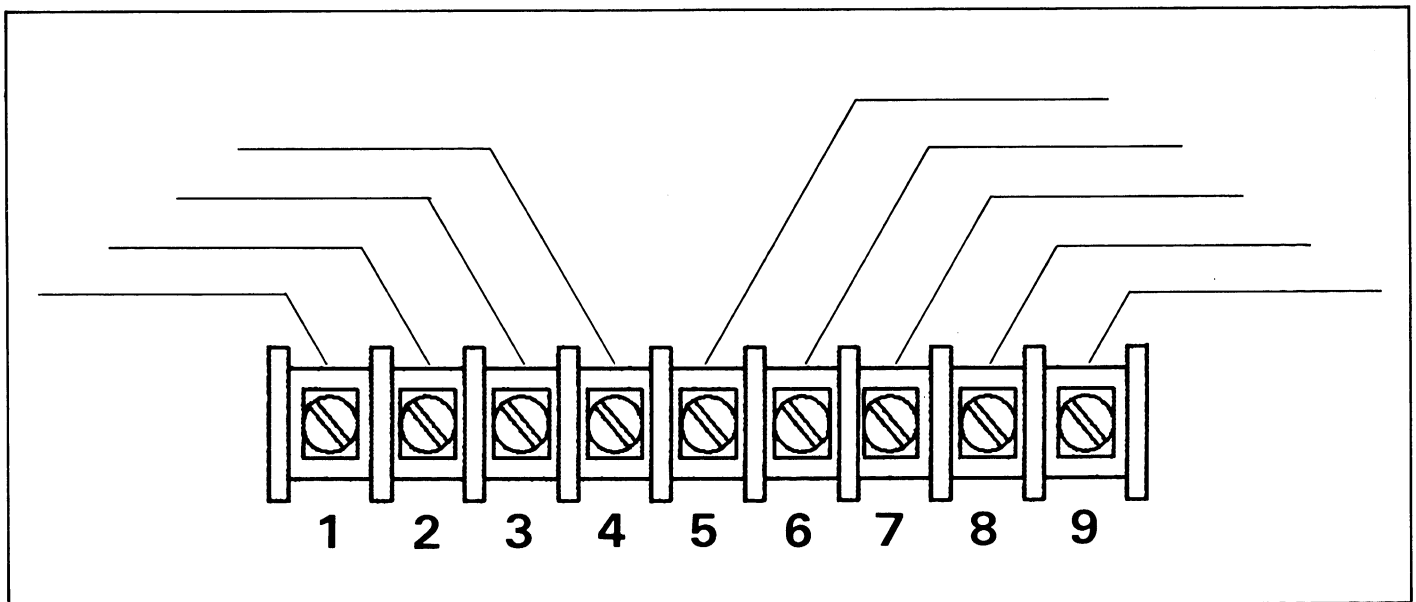

Figure 1 — PC Board Terminal Block Lead Identification
2. As leads are removed from PC board terminal block, tag each lead with the terminal block number. Write the lead color and/or wire number on Figure 1.
10. Refer to Figure 1 and reconnect leads to PC board terminal block.
1. As leads are removed from PC board terminal block, tag each lead with the terminal block number. Write the lead color and/or wire number on Figure 1.
8. Refer to Figure 1 and reconnect leads to PC board terminal block.